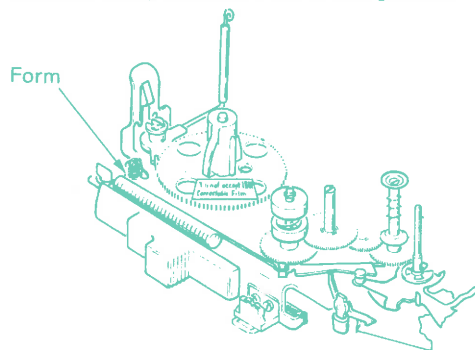

Figure 1
4. Form front cartridge support lug for clearance of 0,25 - 0,38 mm (.010"-.015") between cartridge & lug (Figure 1).